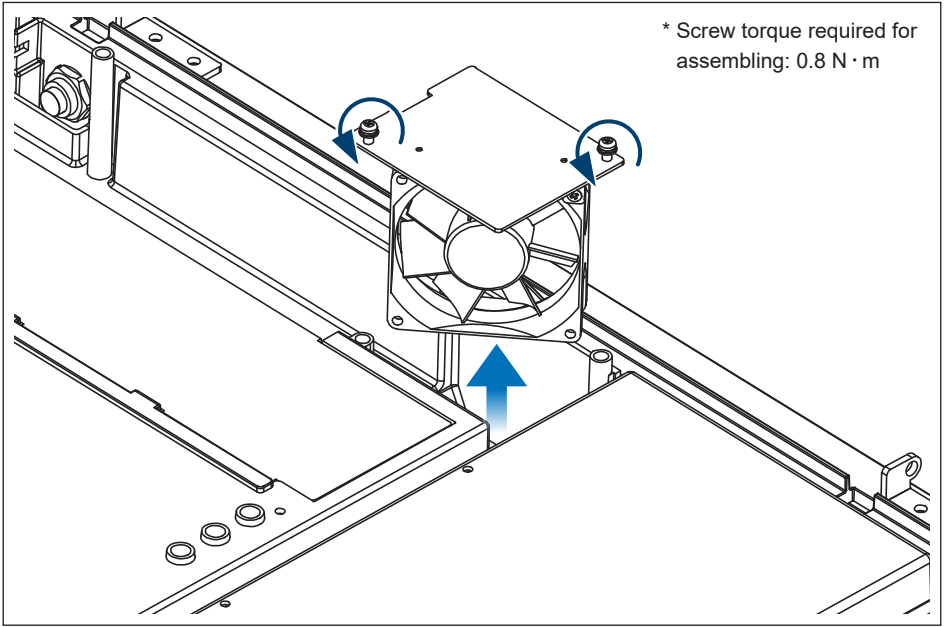

Figure 5-13: Take off the internal fan 1
- (3) Loose two self-retaining screws and remove the fan cabinet. (**Figure 5-13**)